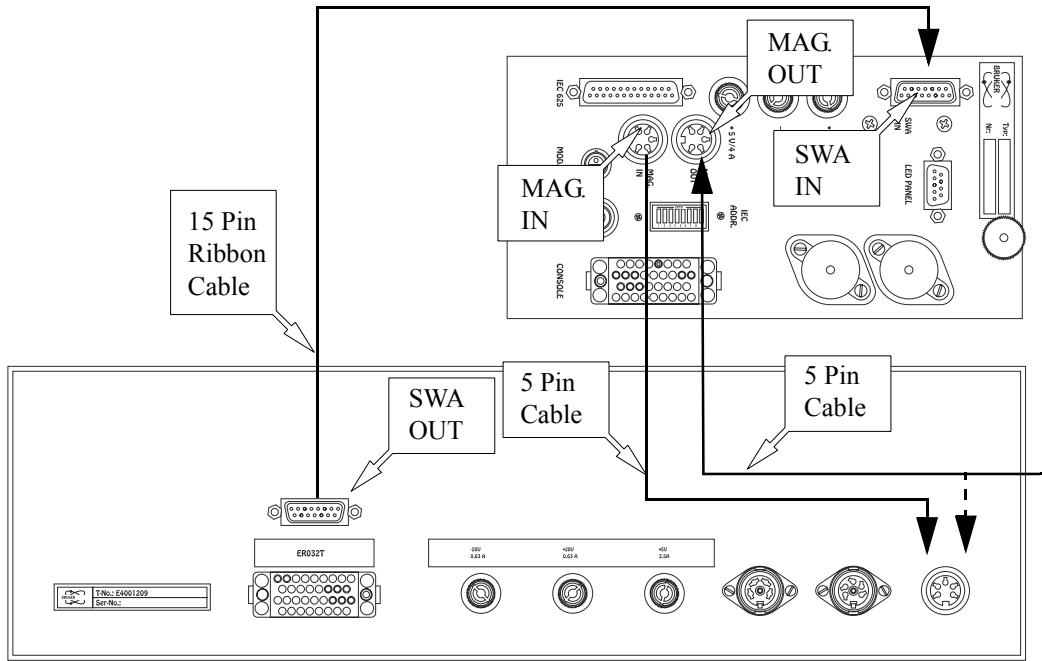

Figure 12-12 Back view of the FF-Lock (above) and field controller (below).
4. **Change the ER 032 T cable connections.** Open the back door of the console. There is a cable labeled ER 032 T connected to the 5 pin connector on the back of the field controller. (See the dotted arrow in Figure 12-12.) Disconnect the cable and reconnect it to the MAG. OUT 5 pin connector on the back of the FF-Lock. (See Figure 12-12.)
6. **Connect the sweep address cable.** Use the 15 pin ribbon cable to connect SWA OUT of the field controller to SWA IN of the FF-Lock. (See Figure 12-12.)